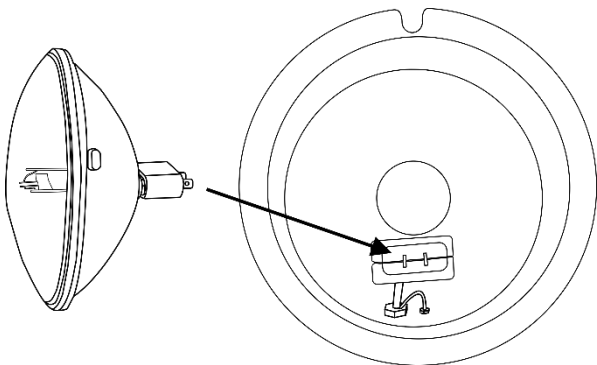

Fig. 05
- 05) Pull out the lamp holder and insert the lamp (fig. 05).